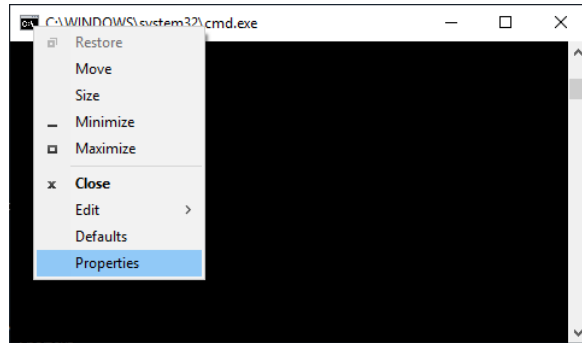

Figure 64
- 23.4.5. Right click on the logo in the upper left corner, then click **properties**. See Figure 64 for reference.